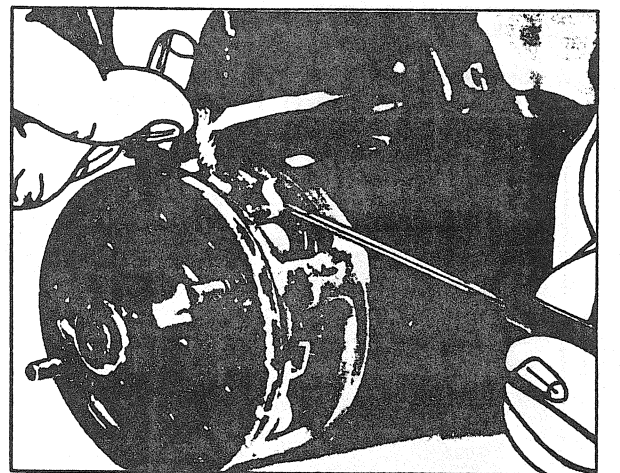

FIGURE 4
- Lift up pressure springs and pull out carbon brushes (Fig. 4).